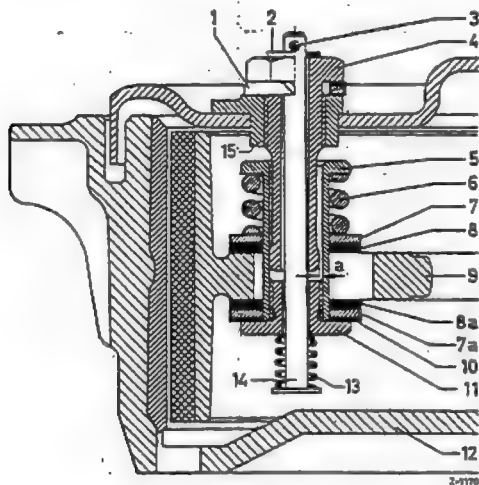

Fig. 42-8/5
4. Unscrew the bolt (4) of the automatic adjustment at the back of the brake anchor plate and remove together with the lock washer (1).
5. Screw out the stop screw (2) and remove it together with the lock washer (see Fig. 42-8/3).
Note: Since in the 2nd version of the brake shoe suspension the anchor pin stop (5) is located in the wheel brake cylinder, it is not necessary to screw out the hexagon screw (2) (Fig. 42-8/4).
6. Bend the locking plate (6) upward and screw out the anchor pin (5) from the eye of the brake wheel cylinder (see Fig. 42-8/3).